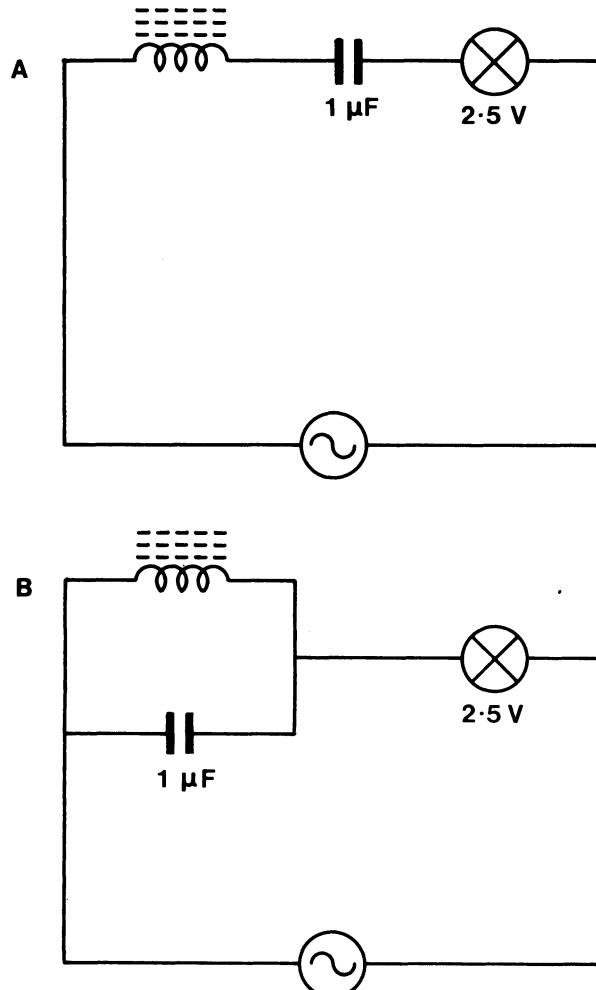

FIG. 1.17
2. Connect up the coil in series with a  $1\ \mu\text{F}$  capacitor and bulb to a signal generator as shown in Circuit A in Fig. 1.17 above. Vary the frequency of the signal generator over its entire range, observing what happens to the bulb. It will be noticed that the bulb only lights up for a band of frequencies around 7 kHz. This is because at low frequencies the high impedance of the capacitor prevents the bulb lighting while at high frequencies the situation is reversed and it is the high impedance of the inductor at these frequencies that prevents the bulb from coming on. It is only for frequencies in the middle of the range when the impedances of the inductor and capacitor are approximately equal that the bulb lights.
4. Now connect up the  $1\ \mu\text{F}$  capacitor in parallel with the inductor as in Circuit B in Fig. 1.17 and again see what happens to the bulb as the frequency is varied. Replace the  $1\ \mu\text{F}$  by the  $0.1\ \mu\text{F}$  capacitor and repeat the experiment. Notice that with the capacitor and inductor in parallel, the bulb lights up for all frequencies except a band centred on 7 kHz for the  $1\ \mu\text{F}$  capacitor and 20 kHz for the  $0.1\ \mu\text{F}$  capacitor. These effects can again be explained in terms of the changes in the impedances of the inductor and capacitor with frequency. At low frequencies the low impedance of the inductor allows a large current to flow in the circuit, thus causing the bulb to light; at high frequencies the inductor's impedance is high but the capacitor's impedance is low and a large current thus flows through the capacitor allowing the bulb to light. It is only for frequencies at which the impedances of the inductor and capacitor are approximately equal that the bulb dims. Notice that the frequencies around which the bulb dims for the inductor and capacitor connected in parallel are the same as the frequencies around which the bulb lights when the two are connected in series. These frequencies are those at which the impedances of the inductor and capacitor are exactly equal. Mathematically, they are given by